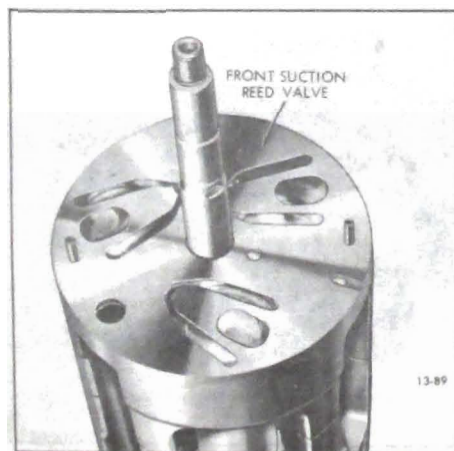

Figure 13-115 Front Suction Valve Reed Disc Installed
1. Assemble suction reed valve disc to front of cylinder assembly and align with dowel pins, suction port and discharge port (see Figure 13-115).